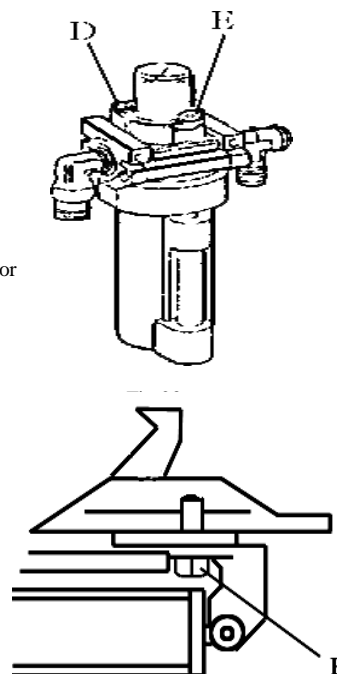

Fig 24
Note: After the first 20 days of use, retighten the jaws with tightening screws (B) on the Turntable (Fig 24)